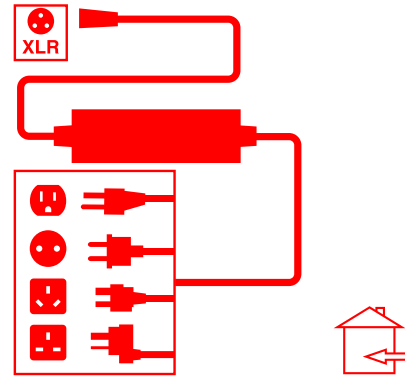

Figure 20. Battery Charger
3. Plug the off-board charger into the off-board charger/programming socket on the controller. **See figure 20.**